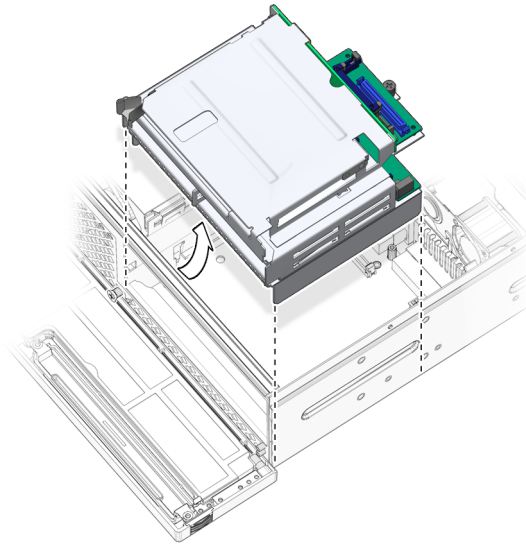

FIGURE 3-27 Lifting the Mass Storage Assembly From the Chassis
6. Slide the mass storage assembly back, pivot the back end up, and lift the assembly out of the chassis (FIGURE 3-27).